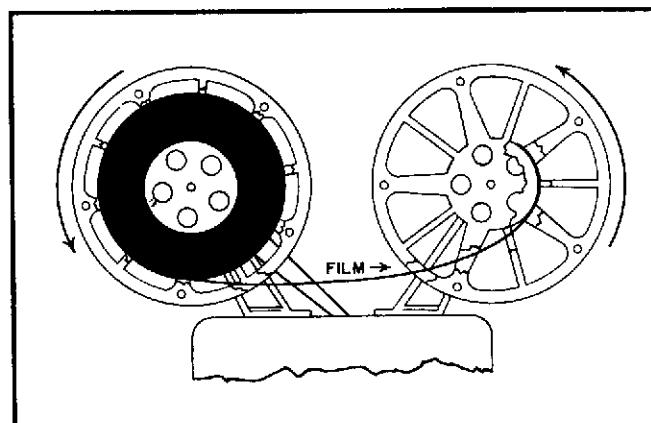

Figure 1-22. Film Threaded for Rewinding
a. It must be cautioned that rewinding the film on the projector will not permit checking of film condition. b. To rewind the film on the projector, unwind about three feet of film from the take-up reel and pass the film directly from the bottom of the take-up reel to the right side of the empty reel (figure 1-22). Engage the free end of the film in the slot of the empty reel hub. Rotate the empty reel one or more turns in a counterclockwise direction to make certain that the film has engaged the reel properly. Both the full reel of film and the empty reel of film should turn in a counterclockwise direction. No twisting, changing or removing of the belt is necessary.